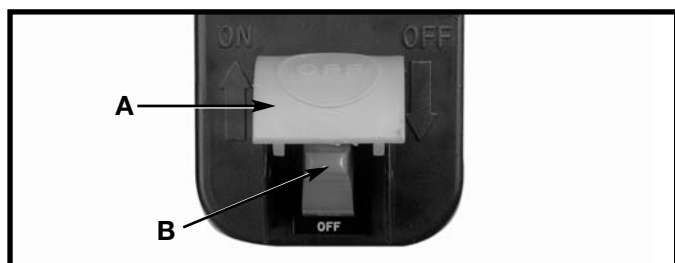

Fig. 42
1. The on/off switch is located underneath the switch shield (A) Fig. 42. To turn the saw "ON", move switch trigger (B) to the up position.